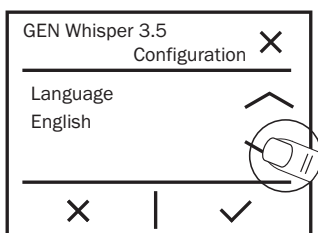

Figure 9
- 5 Figure 9: With the first screen you can select the desired language by touching the up/down pointing arrows. After selecting, touch ✓ to confirm.